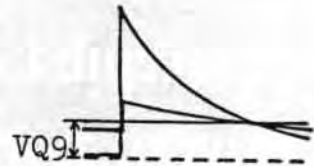

Fig. 3
Rotating wiper ② of VR5 closer to terminal ③ increases ENV MOD voltage being fed to base of Q10 while changing the bias which in turn lowers VCF cutoff frequency. See Fig. 3. This is equal to turning CUTOFF knob counterclockwise and, since Q10 and Q11 in combination convert control voltage to the current in anti-log fashion, the cutoff point stays in an effective frequency range for the most portion of envelope sweeping duration.